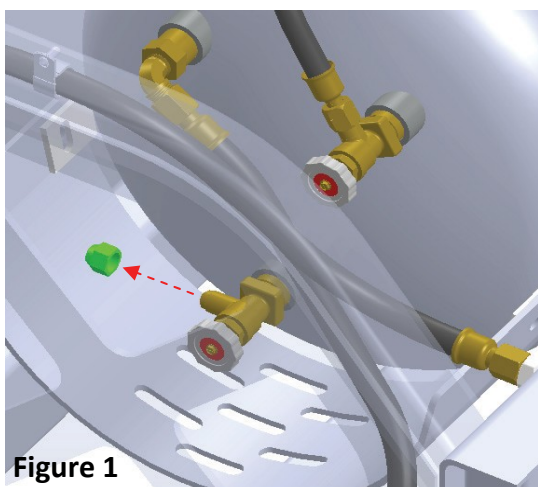

Figure 1
- 1) Locate and shut off the supply and return valves on the tank LPI® Tank. (Figures 1 and 2)
- 2) Making sure the service valve is shut all the way off. Turn valve clockwise until valve is fully seated. **Caution: Do not over tighten damage to the valve may occur. Figure 1**